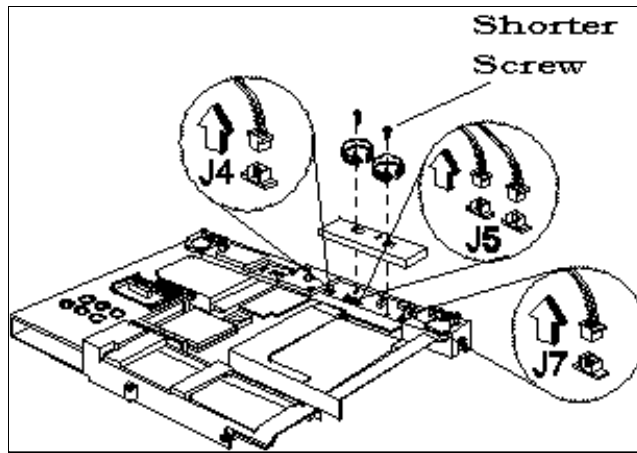

Figure 6-15 Unplugging Cables on FIR/Audio Board
3. Refer to Figure 6-15 and remove the following connectors:
4. Remove the two screws that secure the FIR/Audio Board to the Motherboard and remove the cover plate (refer to Figure 6-15).